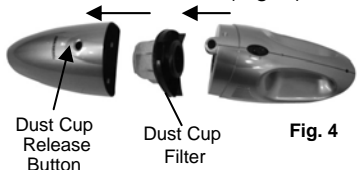

Fig. 4
2. Verify that the dust cup filter is inside, then re-attach the dust cup container to the hand vacuum. (Fig. 4)